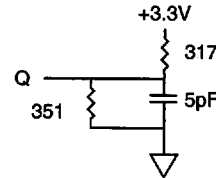

Figure 2
6. Output loading is specified with CL = 5pF as in Figure 2.
12. The load used for VOH, VOL testing is shown in Figure 2. AC load current is higher than the shown DC values. AC I/O curves are available upon request.